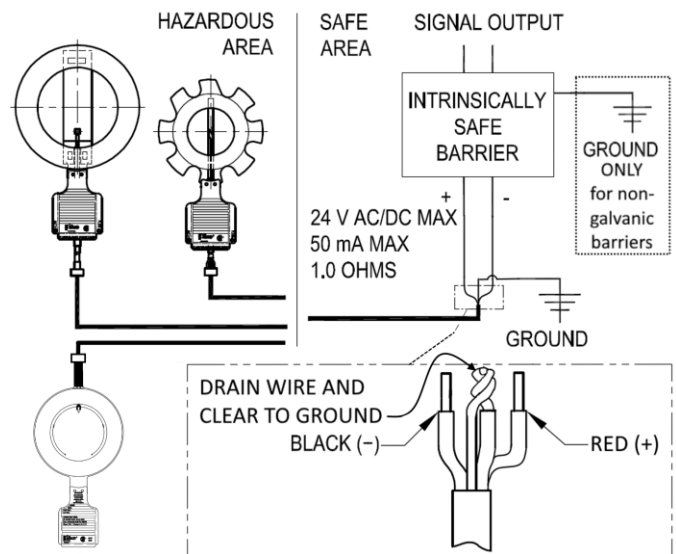

Figure 2 - BC2, BC2 LP, BC2-H2 Wiring Diagram
6. Connect the BC2, BC2 LP, BC2-H2 receptacle to lead wire with electrical plug connector as shown in Figure 2.
The indicator should be wired per the wiring diagram illustrated in Figures 2 and 5. Install in accordance with all applicable local and national codes (in Canada, Canadian Electrical Code, Part 1).